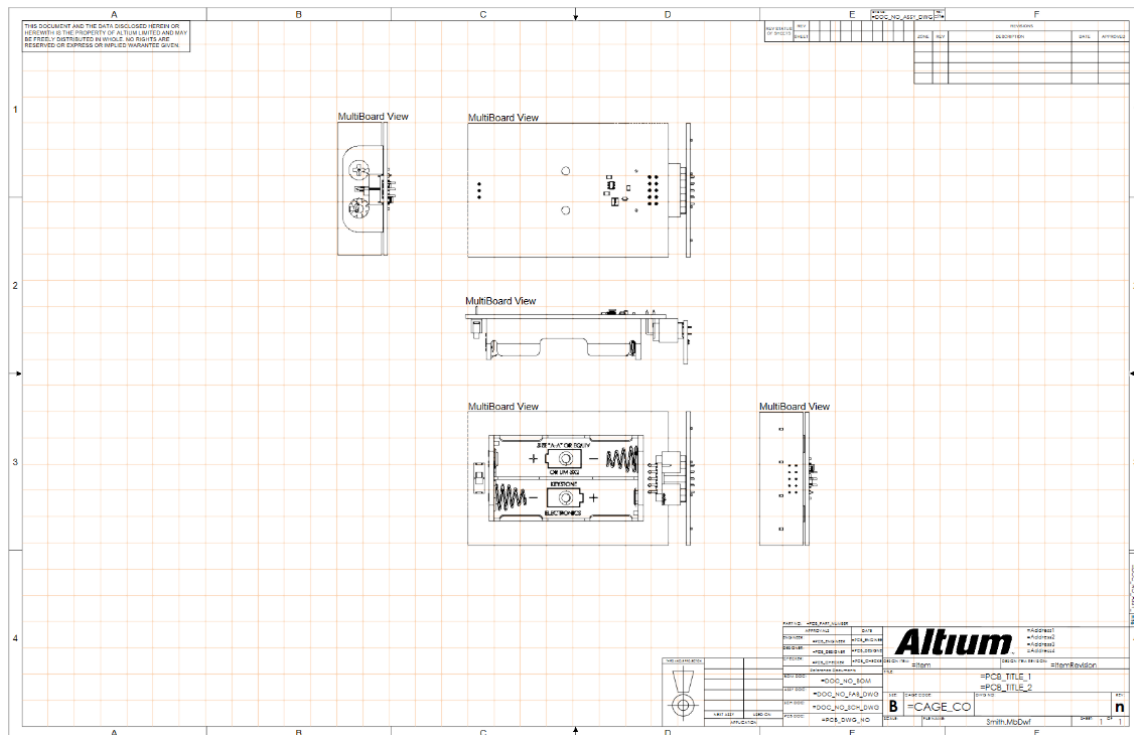

Figure 38. Example Draftsman Document with Multi-Board Assembly Views
81. Complete the placement of your views to attain the same image as seen in Figure 38 below.